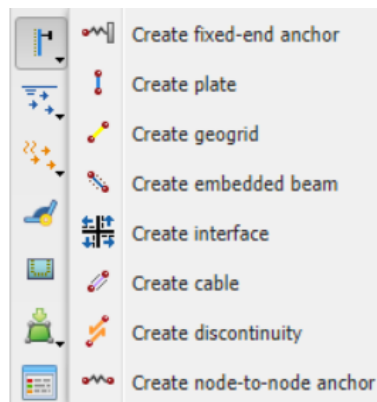

Figure 3–2: Create plate option
- 2 In the expanded menu select the **Create plate**  option as shown in Figure 3–2 \(p. 57\).